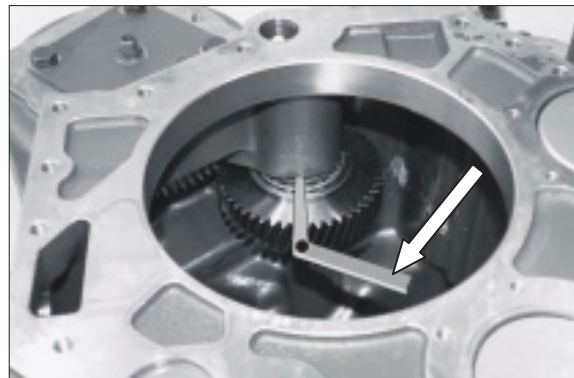

Figure 123
- (14) Adjust the axial play-intermediate gear bearing max. 0.1 mm (figure 123~124)